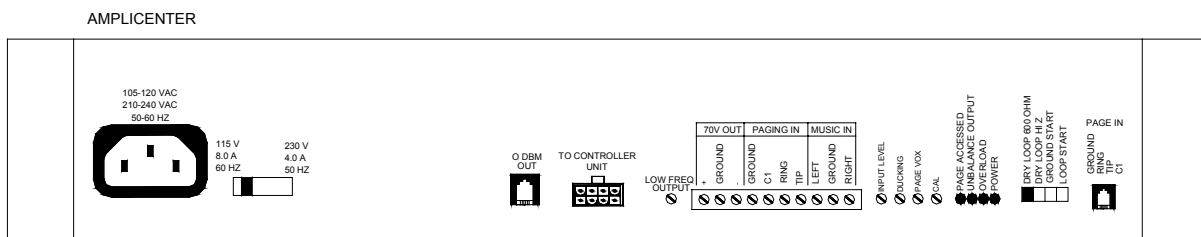

Figure 6. AmpliCenter Mode Switch Setting
1. Set the AmpliCenter Telephone Mode Selection Switch to Dry Loop 600 Ohms (Far left setting). see Figure 6.